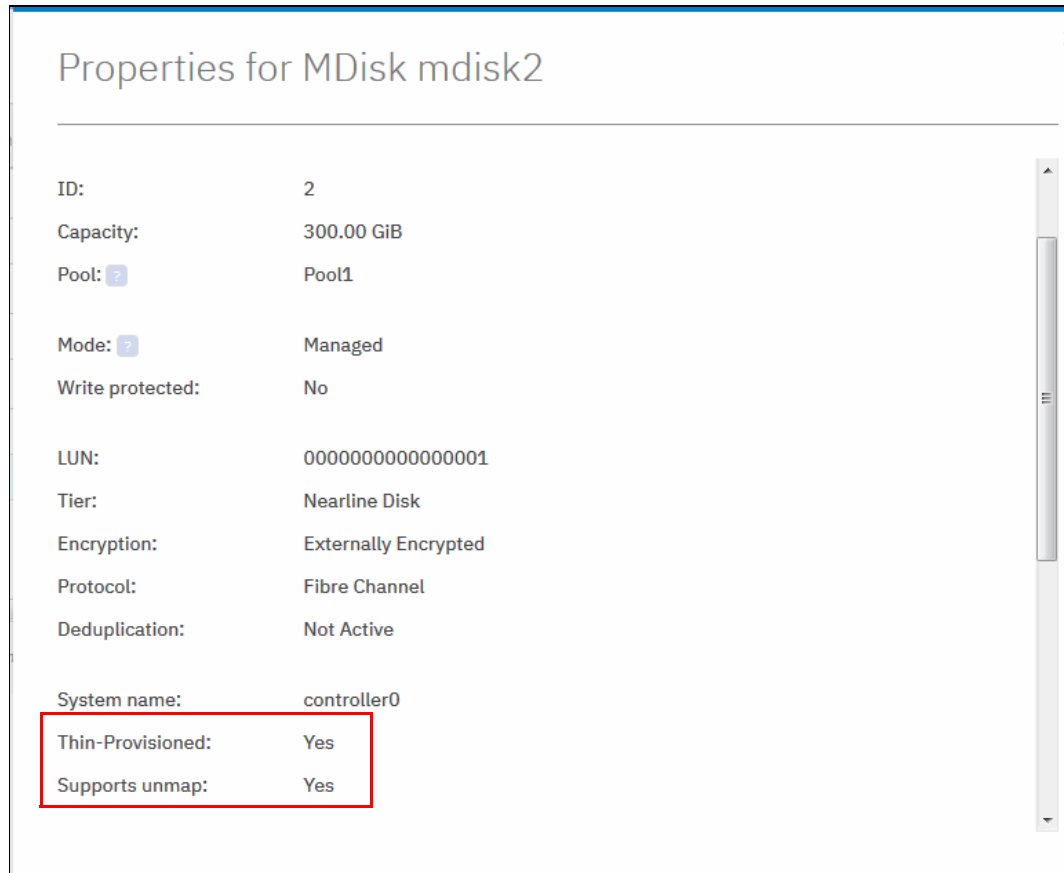

Figure 9-26 Thin-provisioned MDisk properties
- ▶ The MDisk properties window, which opens by selecting **Pools** → **MDisks by Pools**, right-clicking an MDisk, and then selecting the **Properties** option, as shown in Figure 9-26.